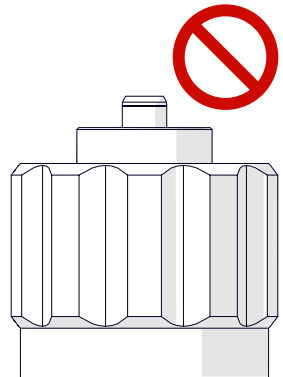

Fig. 57 - Traction is too loose
5. If the traction is incorrectly set up, the green indicator will not be visible, indicating that the traction is too low (Fig. 57). Disengage the clamp levers, adjust the traction by rotating the traction adjustment knob as needed, and check again.